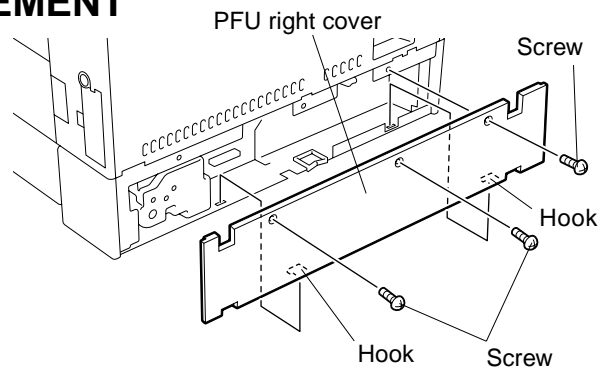

Fig. 6-1
1. Detach PFU rear cover. (See Fig. 6-1)
- Detach PFU rear cover (See Fig. 6-1)
- Detach PFU rear cover. (See Fig. 6-1)